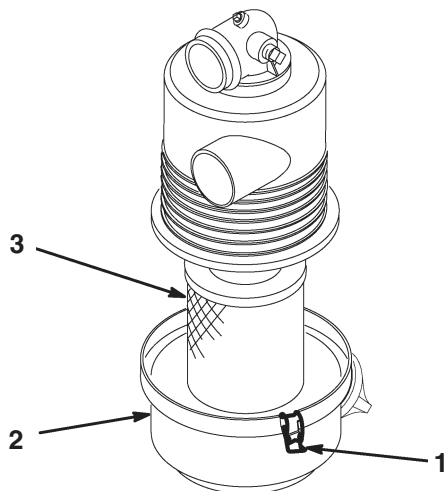

Figure 18
3. Release the latches securing the air cleaner cover to the air cleaner body. Separate the cover from the body. Clean the inside of the air cleaner cover (Fig. 18).
4. Gently slide the filter out of the air cleaner body to reduce the amount of dust dislodged (Fig. 18). Avoid knocking the filter against the air cleaner body.